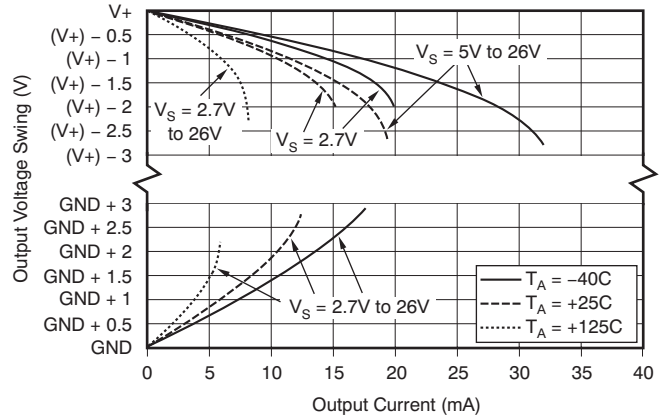

Figure 10.
(1) Full range $T_A = -40^\circ\text{C to }125^\circ\text{C}$
(2) RTI = referred to input
(3) Not production tested
(4) See Typical Characteristic, *Output Voltage Swing vs Output Current* (Figure 10).